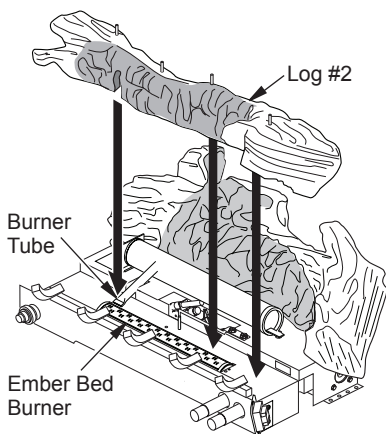

Figure 24 - Installing Log #2
2. Place front log (log #2) behind ember bed burner and over pin in base as shown Figure 24. Align hole in bottom of log with pin to the right of burner tube. Notch in bottom of log will align with grate bar.